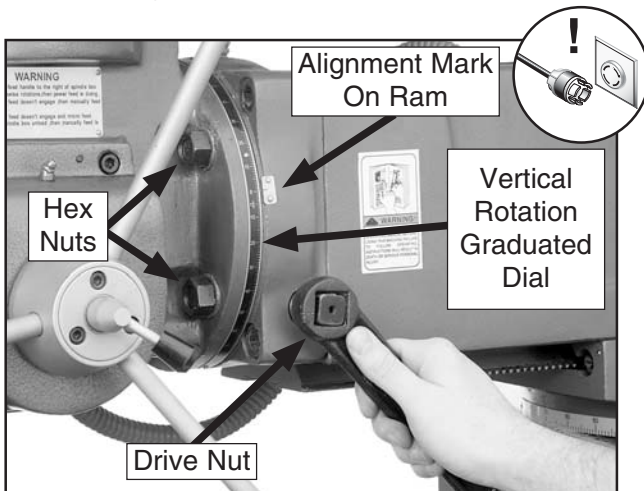

Figure 30. Rotating vertical spindle head vertically.
2. Use a 24mm wrench to loosen the four vertical spindle mounting hex nuts $\frac{1}{2}$ turn—there are two hex nuts on either side of the head (see **Figure 30**).
3. To rotate the headstock, use the square nut wrench provided to turn the square drive nut shown in **Figure 30**.